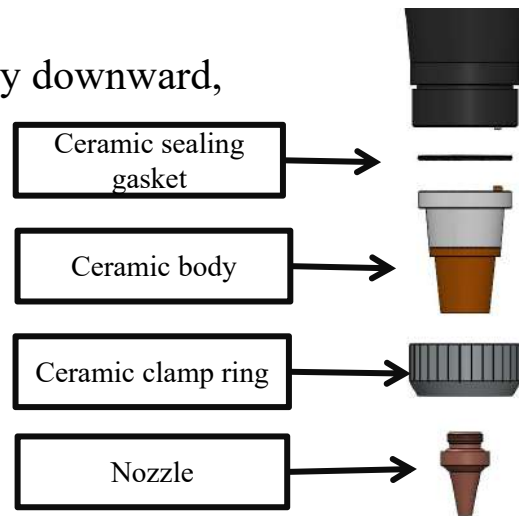

Figure 5.7
- ③ Remove the ceramic body vertically downward, as shown in Figure 5.7.